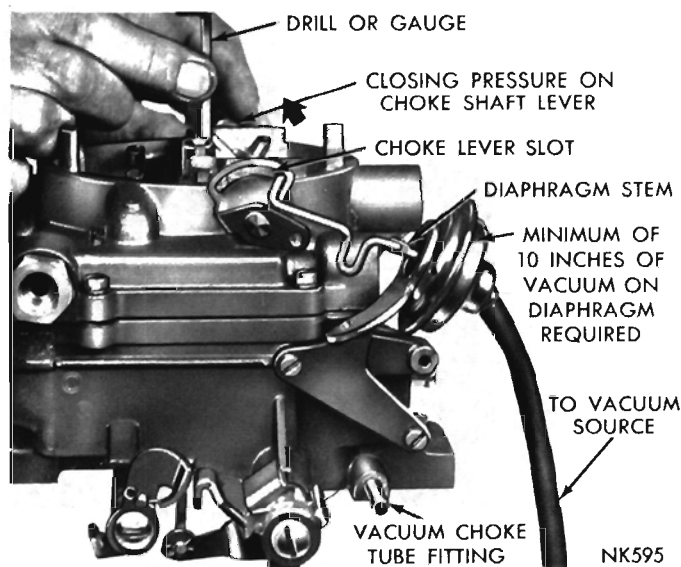

Fig. 14—Checking the Choke Vacuum Kick Setting
(1) With engine **Not** running, open throttle valves far enough to allow choke valve to be moved to closed position.
(2) Disconnect vacuum hose from diaphragm and connect hose from vacuum supply, as shown in (Fig. 14). (A minimum of 10 inches of vacuum) will be required.
Special CAP Carburetors, insert a Number 44 drill (manual transmissions) or a Number 40 drill (automatic transmissions). Use a $\frac{1}{8}$ inch drill on both manual and automatic transmissions on the 273 cu. in. engine carburetor between choke valve and wall of the air horn. Refer to (Fig. 14). Apply sufficient closing pres-
(7) Install choke operating link and recheck choke valve opening, using a drill or gauge. Refer to (Fig. 14).